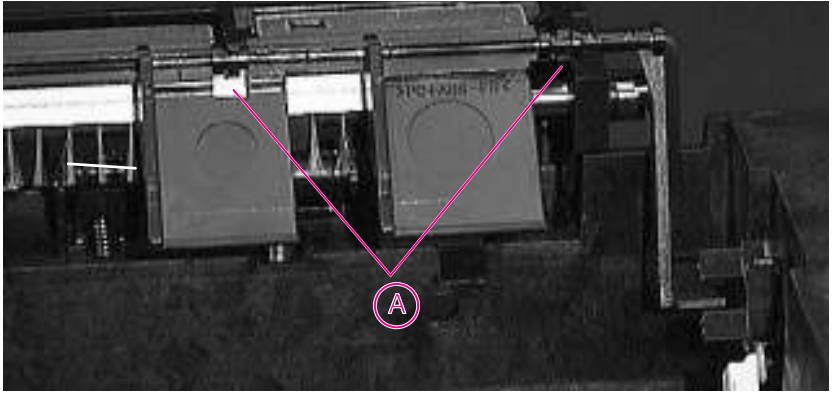

Figure 6-50 Detail of Bin Full Sensor
- 2 The Face Down Bin Full Sensor is located on the top of the Upper Delivery Assembly. Release the two clips (A) (Figure 6-50), and slide the Sensor to the right to remove it.